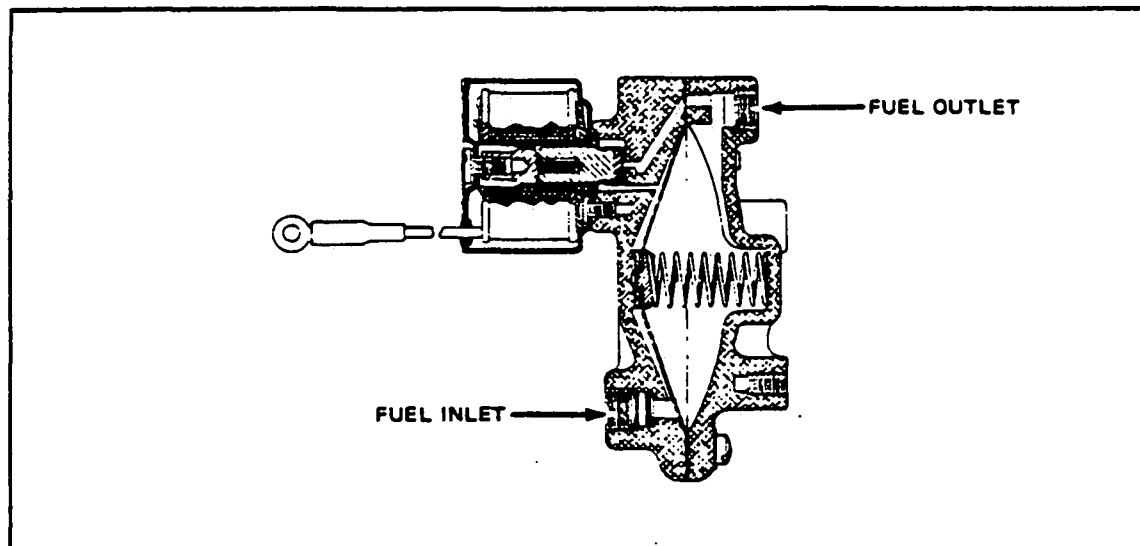

Figure 13-8. Fuel Safety Valve (Cutaway View)
**13-11. SAFETY VALVE.** The safety valve (Refer to Figure 13-8,) which is supplied with the heater consists of a shut-off solenoid and a casting which houses a large diaphragm and spring. The safety valve provides the initial flow of fuel for ignition. Additional fuel to sustain combustion is permitted to flow only after the shut-off solenoid of the safety valve is energized during a starting cycle. Fuel flows from the fuel source through the filter to the inlet side of the safety diaphragm. Pressure of fuel against the diaphragm forces gasoline, contained in the opposite side of the chamber, through the outlet port into the heater.